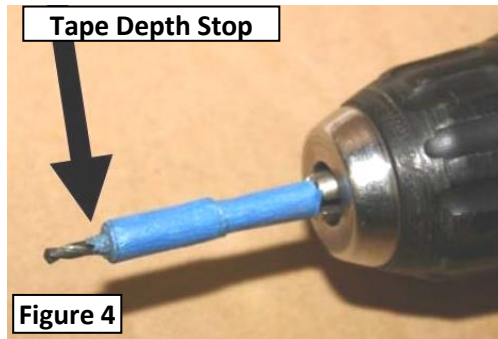

Figure 4
4. Next, use a drill with a 5/32" bit to drill all of the holes that you just center punched. Be careful not to drill deeper than the first layer of sheet metal. You can wrap some tape around the drill bit as shown below (just leaving the tip exposed) to act as a depth stop and prevent drilling too deep. **(Fig. 4)** After the holes have been drilled, hold the panel up to verify alignment of all the holes.